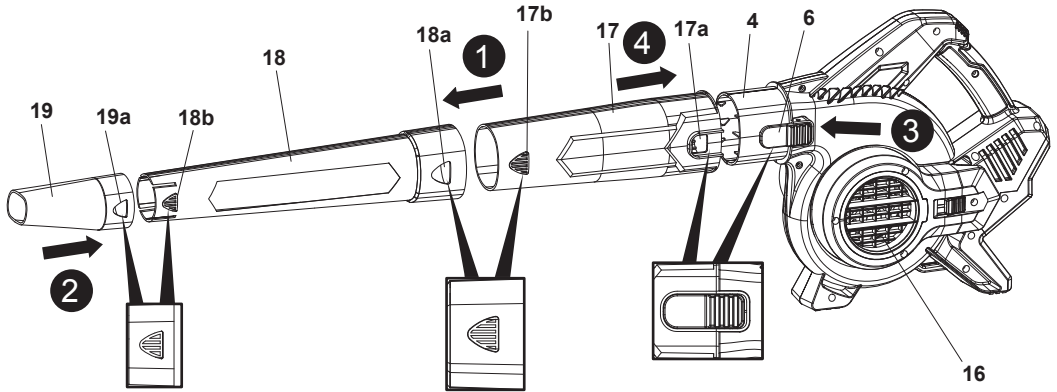

Fig. 1
1. Align and insert the upper blower tube (17) into the middle blower tube (18) all the way to the stop. Ensure that the two latches (17b) engage in the location holes (18a) (Fig. 1, step 1).
2. Align and insert the lower blower tube (19) into the middle blower tube (18) all the way to the stop. Ensure that the two latches (18b) engage in the location holes (19a) (Fig. 1, step 2).
3. Press the right side of the locking knob (6) and hold it in place, then insert blower tube assembly into the blower port (4) all the way to the stop. Release the locking knob (6) afterward. Ensure that the locking button (6) engages in the location hole (17a) (Fig. 1, steps 3, 4).
4. Ensure that the impeller wheel cover (16) snaps in place so that the built-in switch will be activated for blowing operation.